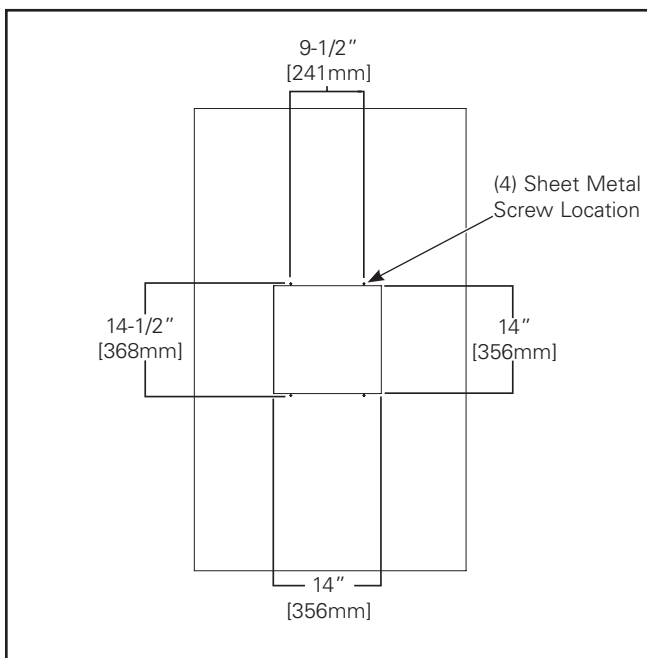

Figure 1a.
4. Using the existing opening as center point, cut out 14 x 14 inch square opening in the canopy with template provided (Figure 1a).